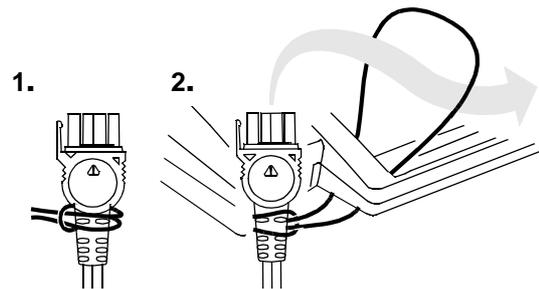

Figure 2 Attaching lanyard
- 1 Loop the lanyard around the AED connector-end of the cable (see Figure 2).
- 2 Loop the defibrillation cable through the lanyard and around the AED handle (see Figure 2).